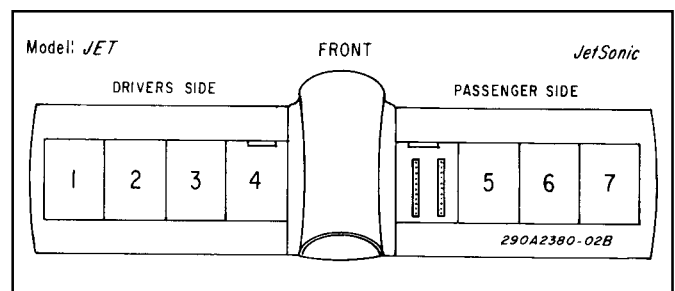

Figure 1.
2. Select the appropriate mounting location for the rotator assembly (see figures 1 and 2). Remove existing components (if applicable) and choose either of the following locations: